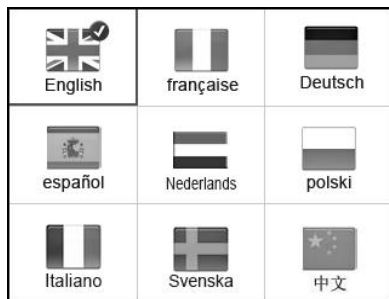

Figure 3.3
- 2) Use the **UP/DOWN** scroll button to select the desired language and press the **OK** button to save your selection and return to previous screen (Figure 3.3).